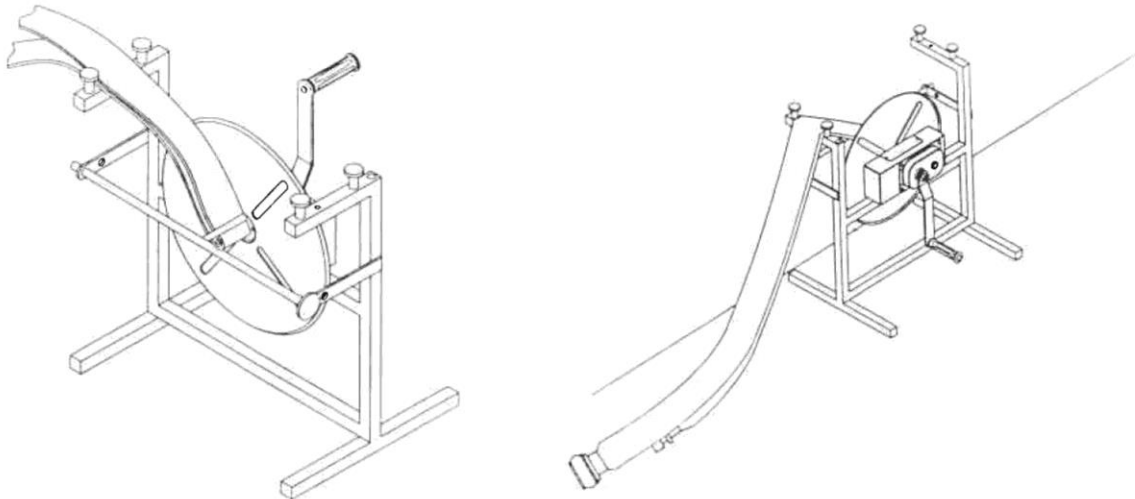

Figure 1.
- 1.Single side winding-----when the hose is empty.(As Figure 1.)